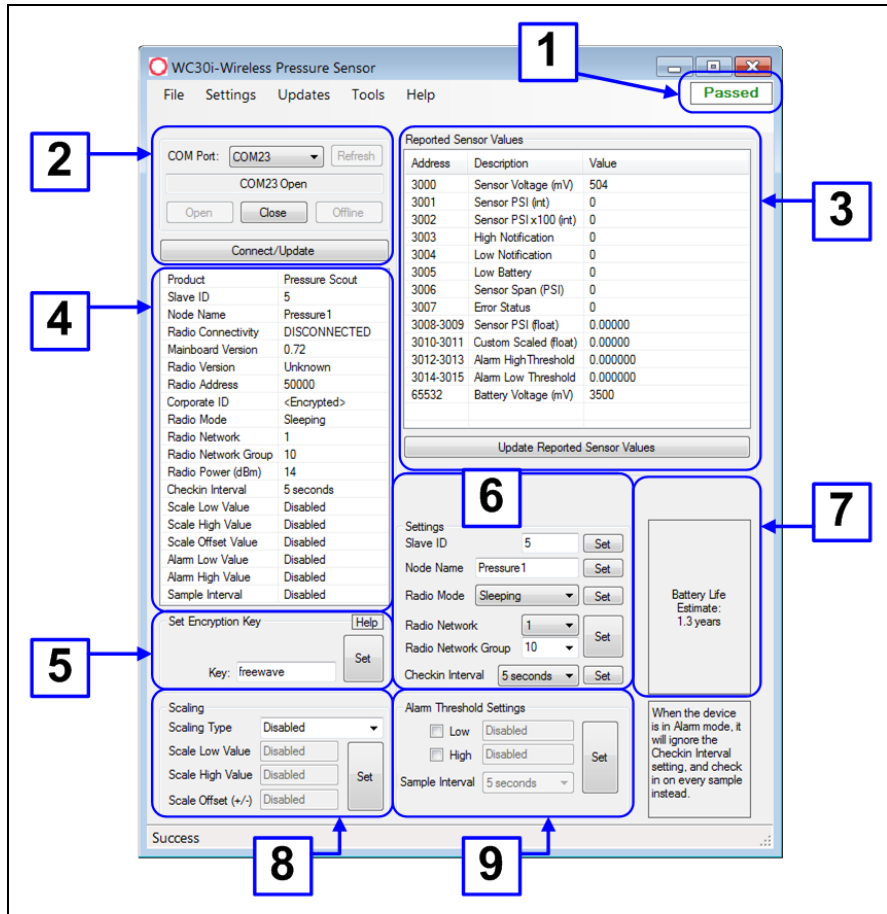

Figure 24: Device Configuration window: WC30i
9. On a WC30i Wireless Pressure Sensor, in the **Alarm Threshold Settings** area (#9 of Figure 24):
The calculated estimated battery life appears in area #7 of Figure 24.